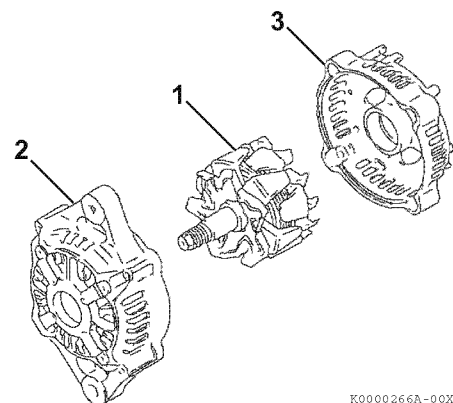

Figure 11-9
8. Using a press, remove the rotor assembly (**Figure 11-9, (1)**) from the front frame housing (**Figure 11-9, (2)**) and rear frame housing (**Figure 11-9, (3)**).